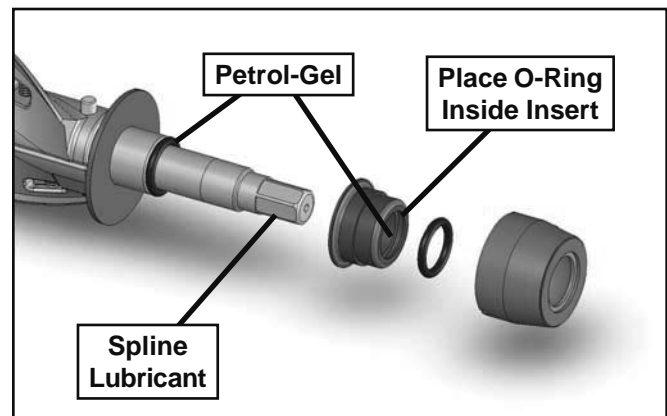

Figure 3-4 Rear Seal Assembly
- C. Install the stainless steel rear seal adapter into the rear seal dry (without lubricant). Lubricate the inside surface of the rear seal adapter, including the adapter o-ring, and install it onto the auger shaft. DO NOT lubricate the outside of the rear auger seal (Fig. 3-4).